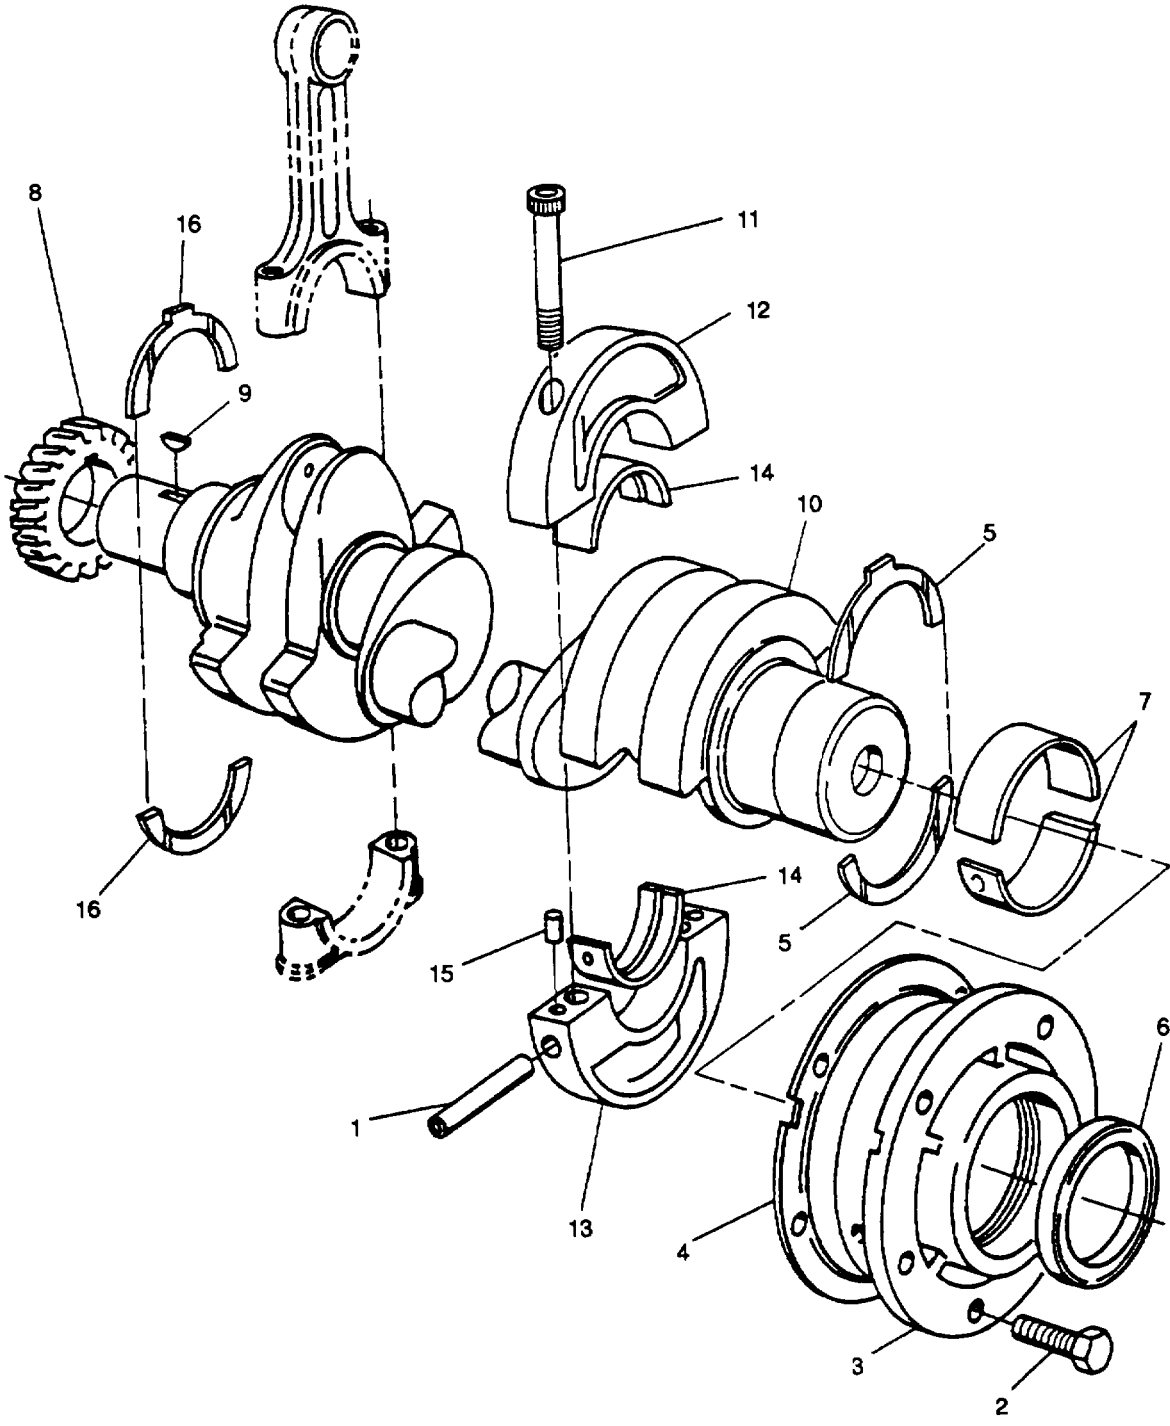
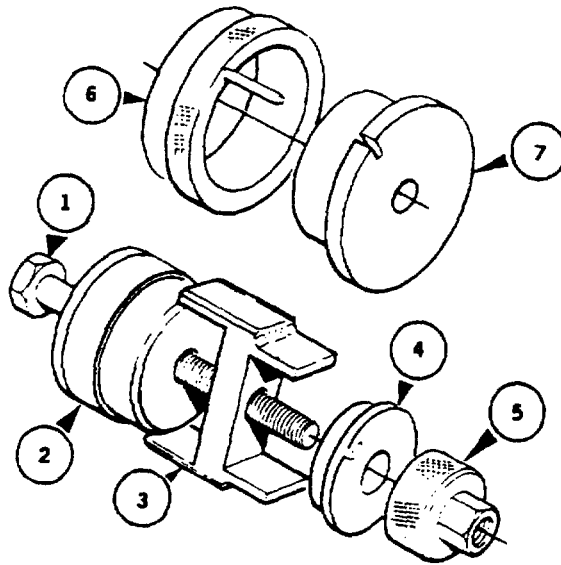

FIGURE 3-40. Crankshaft Assembly
FIGURE 3-41. Main Bearing Tool
- d. Use an intake manifold bolt to remove center bearing tube (1, FIGURE 3-40). Leave bolt in tube until it is installed to ensure tube is installed correct way. Refer to FIGURE 3-39.
- e. Remove five capscrews (2, FIGURE 3-40) securing main bearing housing (3).
- f. Remove bearing housing (3). If it is tight, use two recesses in 3 o'clock and 9 o'clock positions and pry it off with a suitable screwdriver. Remove and discard shim (4).
**Thrust bearing (5) will come out with main bearing housing.**
- g. Remove thrust bearing (5).
- i. Using suitable driver, drive oil seal (6) from housing (3) taking care not to damage bearing (7).
- j. Remove bearing (7) from housing (3) as follows:
- (1) Mount housing (3) in a soft-jawed vice.
- (2) Place bolt of main bearing tool (317-50111) through plain dolly. Refer to FIGURE 3-41.
- (3) Install bolt and dolly into bearing (7, FIGURE 3-40) from oil seal side (crankcase outside face).
- (4) Install bridge over bolt threads until two legs are against housing face.
- (5) Install spacer and nut onto bolt.
- (6) Use a suitable wrench to tighten nut until bearing shells (7) are withdrawn.
- a. Install bearing (7, FIGURE 3-40) in main bearing housing (3) as follows:
- (1) Mount housing (3) in a soft-jawed vice with small oil feed hole facing up.
- (2) Place large tapered collar of main bearing tool (317-50111) on a bench with pilot facing up.
- (3) Place new bearing shells (7) into collar ensuring one oil feed hole is in line with pilot pin of collar and end of shell is in line with the mark on collar face.
- (4) Place driver onto collar with cutout on driver located over collar pilot pin.
- (5) Push driver sufficiently until bearings (7) come out other side of collar to provide a lead in.
- (6) Install assembly into housing (3) from oil seal side (crankcase outside face) with pilot pin in line with oil feed hole in housing.
- (7) Place bolt through assembly.
- (8) Install bridge, spacer, and nut onto bolt.
- (9) Tighten nut until driver is against face of collar.
- (10) Remove tool.
- i. Using a suitable puller, remove crankshaft pinion gear (8, FIGURE 3-40). Remove key (9) from crankshaft (10).
- k. Gently withdraw crankshaft (10) through flywheel end of crankcase.
- l. Remove two capscrews (11) securing center bearing upper housing (12) to lower housing (13). Remove both housings (12 and 13) and bearings (14).
- m. If necessary, remove two dowel pins (15) from lower housing (13).
- n. Remove thrust bearings (16) from gear end of crankshaft (10).
- b. Position new center bearing shells (14, FIGURE 3-40) on upper and lower housing. If necessary, install two dowel pins (15) in lower housing (13). Install upper housing (12) and lower housing (13) ensuring words FLYWHEEL END are facing flywheel end of crankshaft (10). Secure with two capscrews (11) and tighten to 186 in-lbs (21.0 Nm).